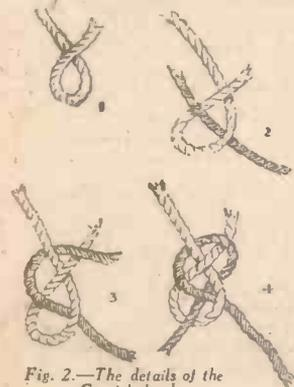
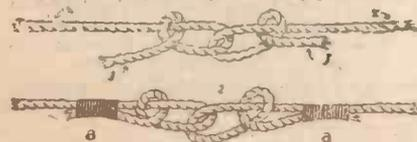

Fig. 2.—The details of the Carrick bend.
Fig. 3.—The hawser bend.
making knots being the running end? Thus, in Fig. 3 (1), x, x are the standing parts, and y, y the running ends. The hawser bend is also used for joining wire ropes together.
I gave you several ways of joining two ends of rope or cord, if you remember. Fig. 2 shows yet another, the Carrick bend, which is a very secure knot for moderately thick stuff; it is not very useful for joining ends of thin material such as string, for if so used, it is apt to jam. I think that the figure makes the method of tying it fairly plain. It is, of course, on the same principle as the reef-knot. If you have to join two pieces of very thick rope, no ordinary knot is secure enough; the only reliable joint is the hawser bend, shown in Fig. 3. The ends are first loosely bent together by half-hitches, Fig. 3 (1), then, to make all safe, the running ends of the hawsers are lashed or "seized" with turns of cord to the standing parts, Fig. 3 (2) a, a.